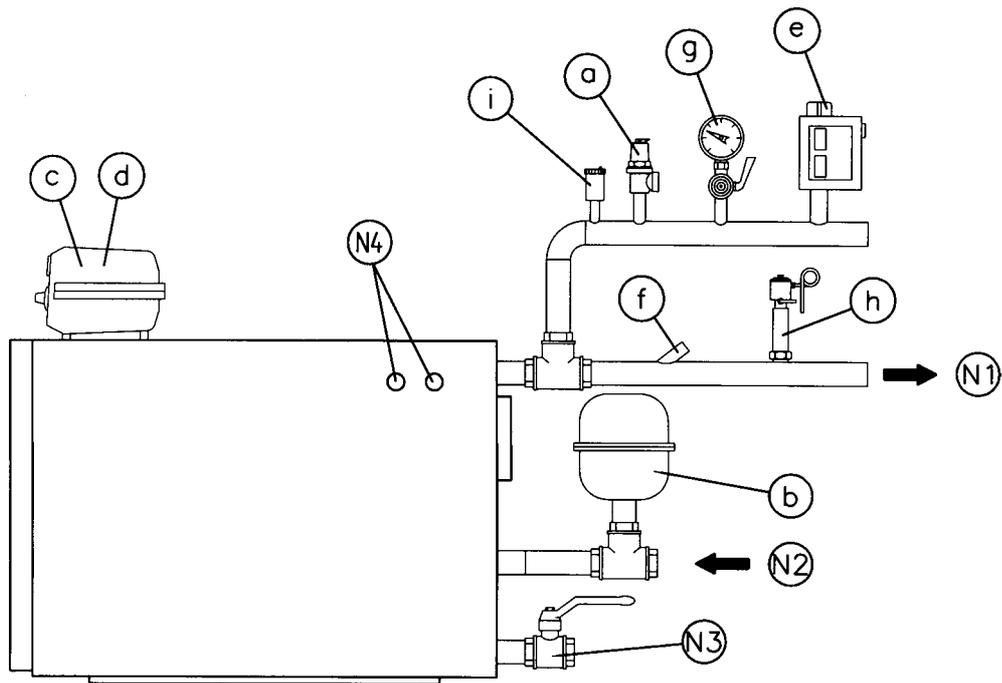

Fig. 4
**4.2. HYDRAULIC CONNECTION (Fig. 4)**